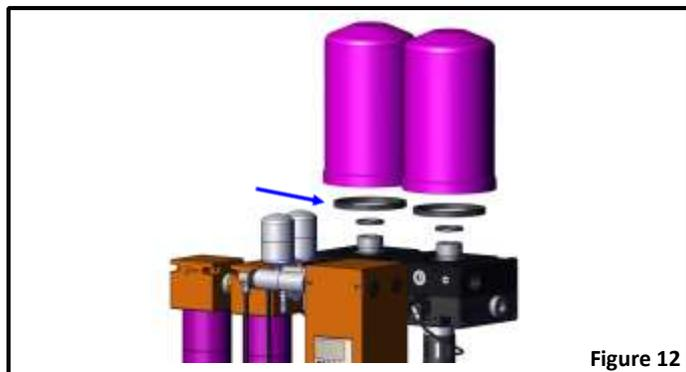

Figure 12
7. Apply a light amount of the supplied grease to the new canister gasket. *Figure 12*